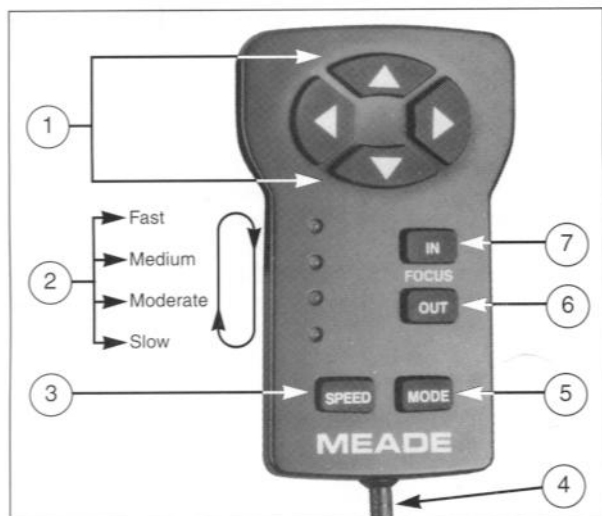

Fig. 5: Electronic Controller. (1) Arrow Keys; (2) Indicator Lights; (3) SPEED Key; (4) Coil Cord; (5) MODE Key; (6) OUT Key; (7) IN Key.
The Electronic Controller provides the observer with the means to control the telescope motors from a compact handbox. The Electronic Controller (Fig. 5) has soft-touch keys designed to have a positive feel, even through gloves.
Arrow Keys (1, Fig. 5): The four arrow keys slew the telescope in four directions (i.e., up-and-down or left-to-right) at any one of four slew speeds (see **SPEED Key**, page 7).
Indicator Lights (2, Fig. 5): Four red LED (Light Emitting Diode) lights are used to indicate the current slew speed.
SPEED Key (3, Fig. 5): The SPEED key is used to change the speed at which the telescope slews when the arrow keys are pressed. Each press of the SPEED key changes the slew speed to the next slower setting. If already on the slowest slew speed (Light 4), pressing the SPEED key cycles back to the highest speed (Light 1). Slew speeds are signified by the indicator lights (2, Fig. 5).
MODE Key (5, Fig. 5): Pressing and holding the MODE key puts the Electronic Controller into the Mode function (see **Electronic Controller Modes**, page 11).
OUT Key (6, Fig. 5): The OUT key is used to decrease the speed of the tracking motor (see **APPENDIX A**, page 19).
IN Key (7, Fig. 5): The IN key is used to increase the speed of the tracking motor (see **APPENDIX A**, page 19).
For the ultimate viewing experience it is important to become familiar with the features of the ETX-70EC and the functions of the Electronic Controller. Upon completing this chapter make first observations of a simple land object several hundred yards in the distance — perhaps a telephone pole or a building. Practice focusing on the object using the focus knob (8, Fig. 1) and centering the object in the eyepiece using the Electronic Controller arrows keys (1, Fig. 5).
- Flip the power switch to ON. The power indicator light (5, Fig. 4) on the computer control panel comes on and all four Electronic Controller indicator lights (2, Fig. 5) blink rapidly.
- Use the four arrow keys (1, Fig. 5) to slew the telescope to the desired object. To change the slew speed, press the SPEED key.
The Electronic Controller has four slew speeds that are directly proportional to the sidereal rate. These speeds are signified by the Electronic Controller indicator lights (2, Fig. 5) and have been calculated to accomplish specific functions.